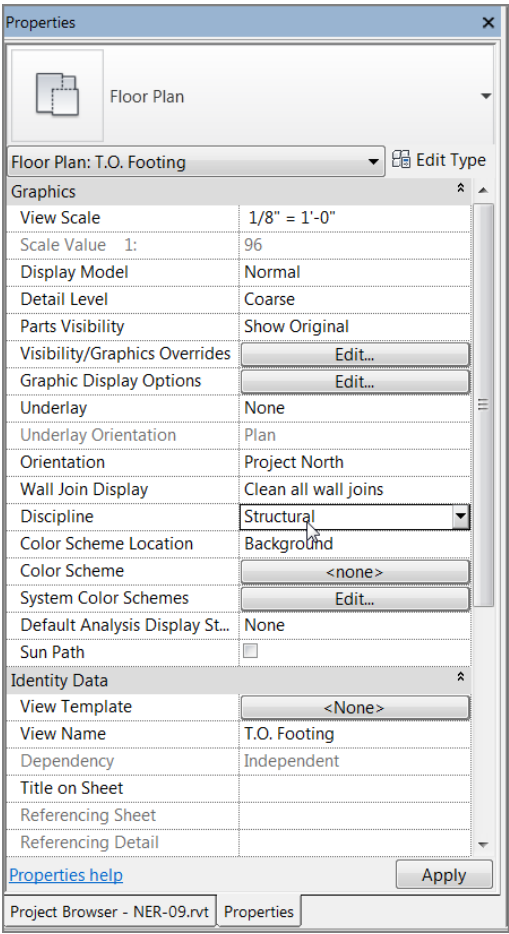

FIGURE 8.71: Changing Discipline to Structural
3. In the Discipline category of the View Properties, select Structural from the list, as shown in Figure 8.71. The sections disappear.